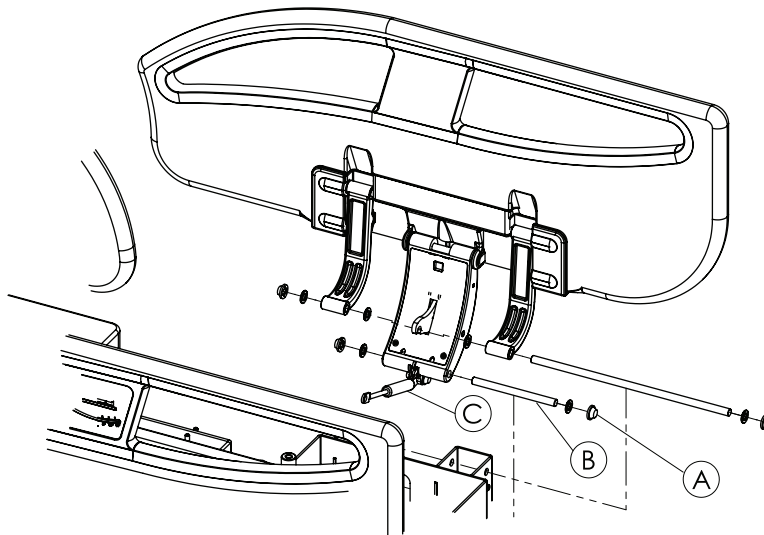

Figure 9: Foot end siderail gas cylinder
7. Using a large flat screwdriver and a hammer, remove one of the push nuts (A) that secures the bottom of the foot end siderail gas cylinder to the siderail mechanism (Figure 9 on page 56).
8. Remove and discard the pivot pin (B) and foot end siderail gas cylinder (C) (Figure 9 on page 56).